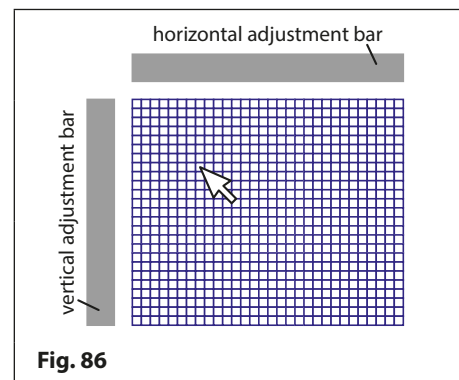

Fig. 86
- Next move the cursor onto the main editing area and position the pointer to where the text will be located, as shown in **Fig.86**.